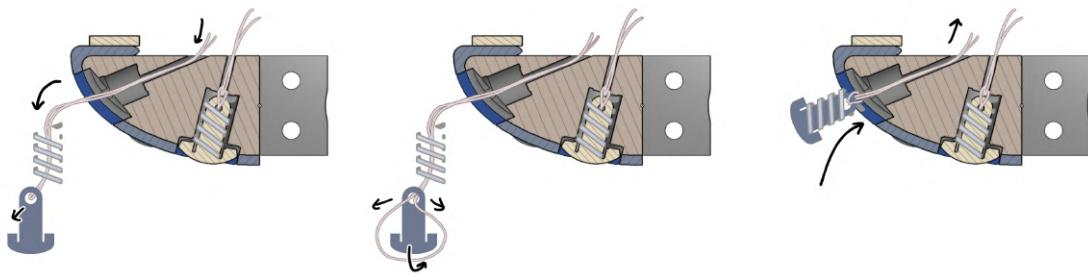

Figure 9.5: Major stages of installing a finger tip, with the arrows indicating direction of the thread
5. For each finger pad (refer to Figure 9.5):